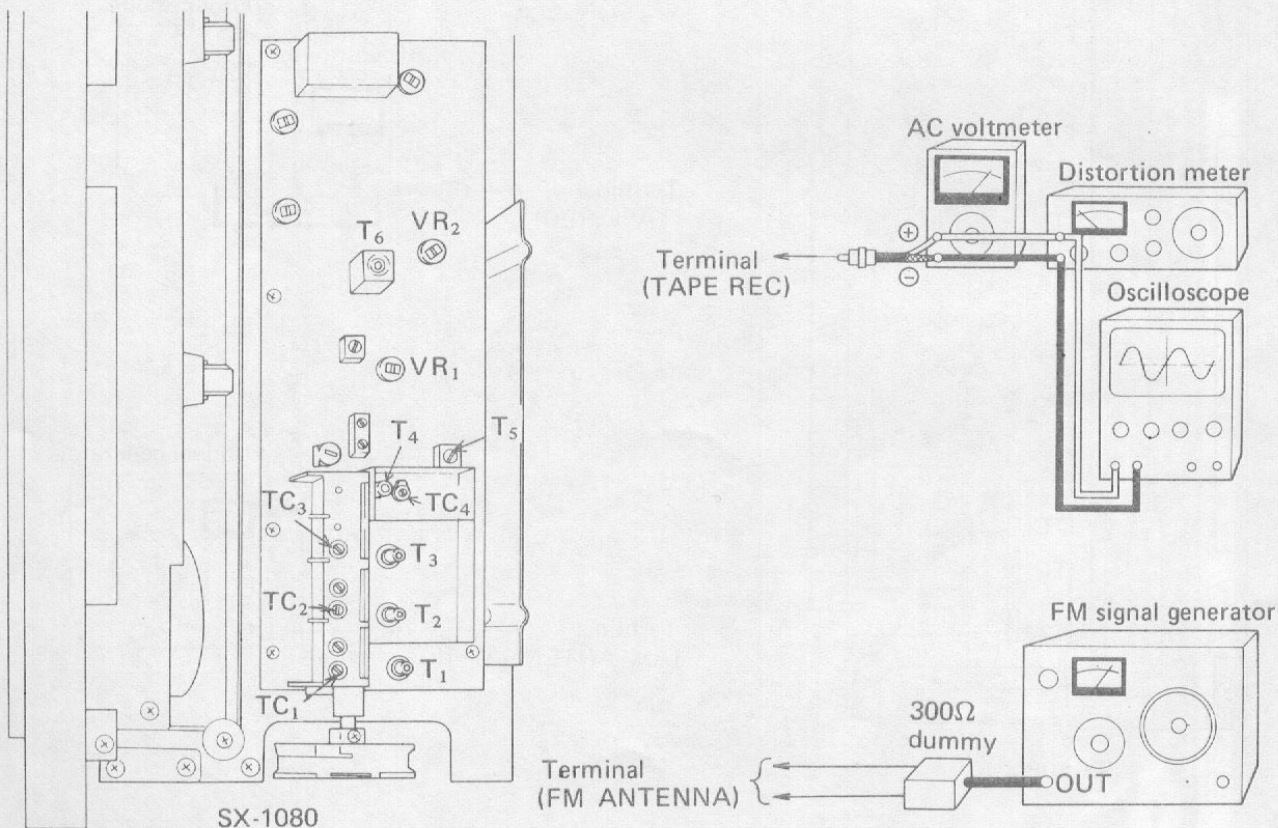

Fig. 10 Connection of FM tracking adjustment
- Connect as shown in Fig. 10, and set the FUNCTION switch to "FM" and the MUTING switch to "OFF".